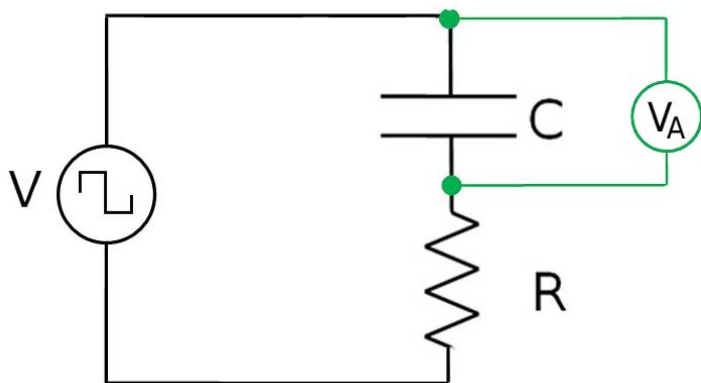

Figure 2: RC Circuit Diagram
1. Construct the circuit shown in Figure 2. The voltage source is Signal Generator #1 on the 850 Universal Interface. $C = 3900 \text{ pF}$ and $R = 47 \text{ k}\Omega$.